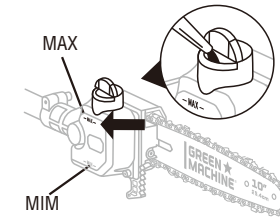

Fig.5B
3. Fill the oil tank with chain oil. The oil level should be above the “MIN” limit and below the “MAX” limit. (Fig. 5B)